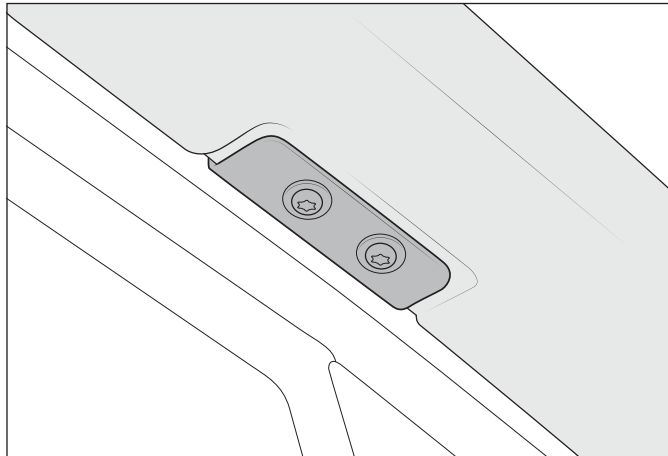

Figure 16
13. Install two M6 Torx bolts into the top side of the snorkel (fig. 16).